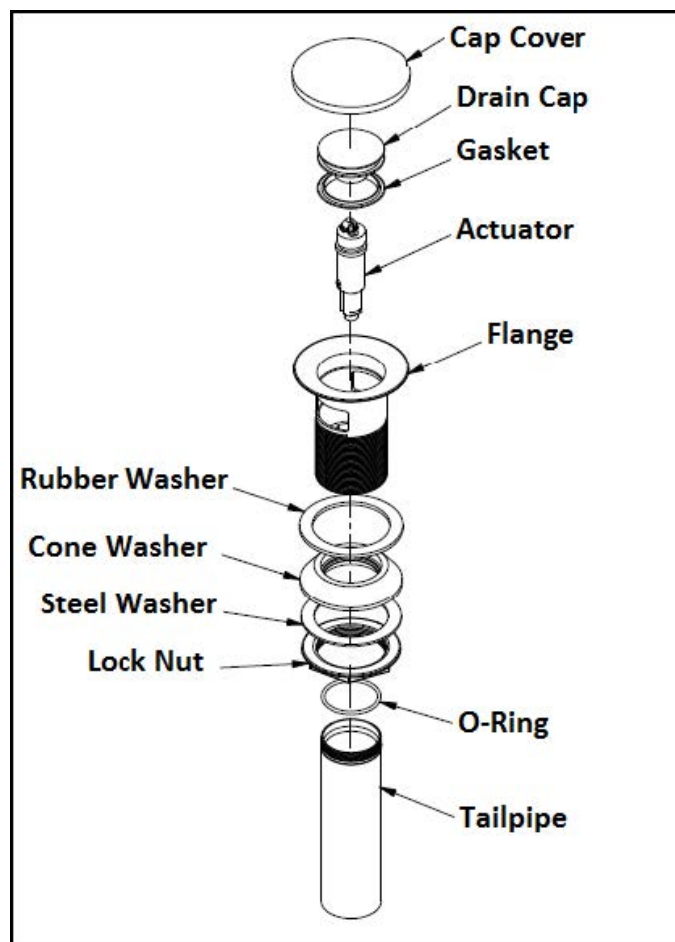

Figure 3
- 3. Drain assembly not included with I203-I. Remove FLANGE, RUBBER WASHER, STEEL WASHER, and discard drain CAP COVER from drain assembly. Place RUBBER WASHER into FLANGE. Then, place FLANGE through the sink hole (Clear silicone may be used in place of RUBBER WASHER). From underside of sink, install CONE WASHER, STEEL WASHER, and LOCK NUT into FLANGE. Thread LOCK NUT firmly. Thread TAILPIPE to FLANGE assembly and assemble TAILPIPE to existing PTrap. See Figure 3.**